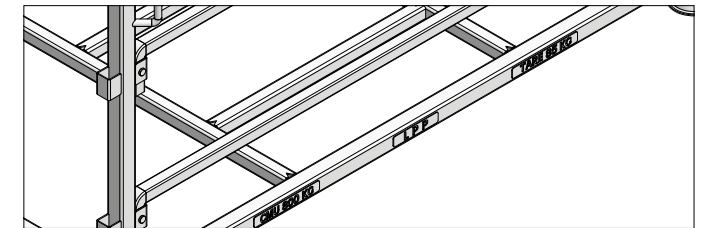

Fig. 14 Load capacity data
- The Eco stacking rack for panels must not be used if the load capacity data is illegible (Fig. 1 and Fig. 14).
The load capacity data must be legible (Fig. 14).
The Eco stacking rack for panels must not be used if the load capacity data is missing or illegible (Fig. 1 and Fig. 14).